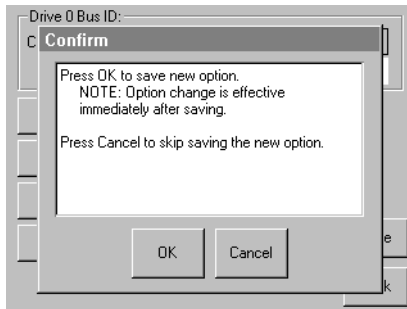

Figure 3-3. SCSI ID confirmation screen
- c. Touch the Save option to confirm your request. A confirmation screen appears on the display (see Figure 3-3).